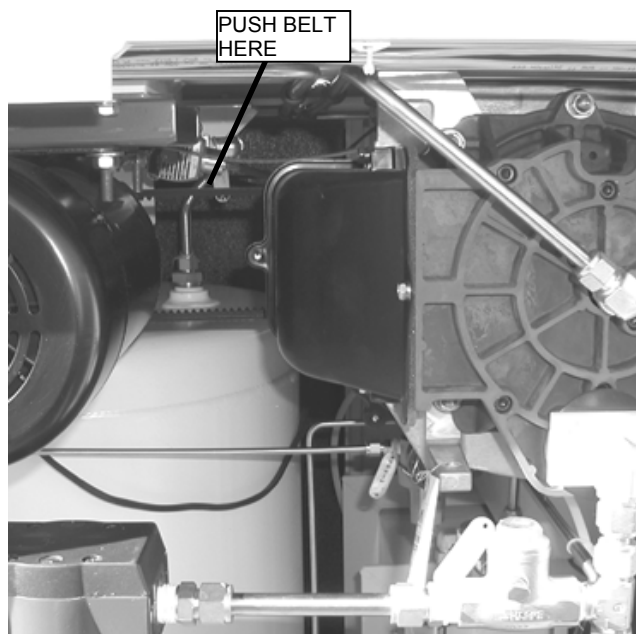

Figure 9. Checking Scroll Compressor Belt Tension.
- b. Check the belt tension by pressing one of the belts at the mid-point and measuring the force required to deflect the belt 0.22 inches. The force required should be 3.6-4.8 pounds for a used belt and 5.1-6.5 pounds for a new belt. Refer to Figure 9.